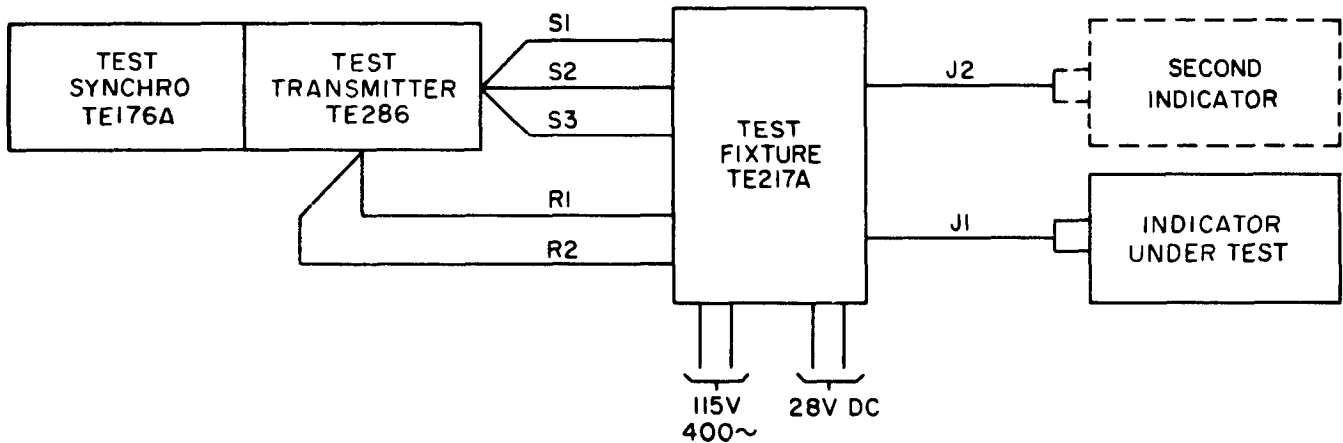

Figure 3-3. Normal Test Setup.
With all power off, connect the indicator as shown in figure 3-3. Apply power. The word OFF should disappear on the face of the indicator.
h. Turn power off and connect a second indicator to the test fixture (fig. 3-3). Set the roll and pitch trim knobs at zero.
a. Connect the indicator as shown in figure 3-3, and apply power.
d. With power off connect the unit under test as shown in test setup (fig. 3-3) except replace test transmitter with TE 218 test. fixture. Connect green, yellow and blue terminals of TE 226 (resistance decade box) to terminals 7, 8, and 37, respectively, on electronic components assembly.